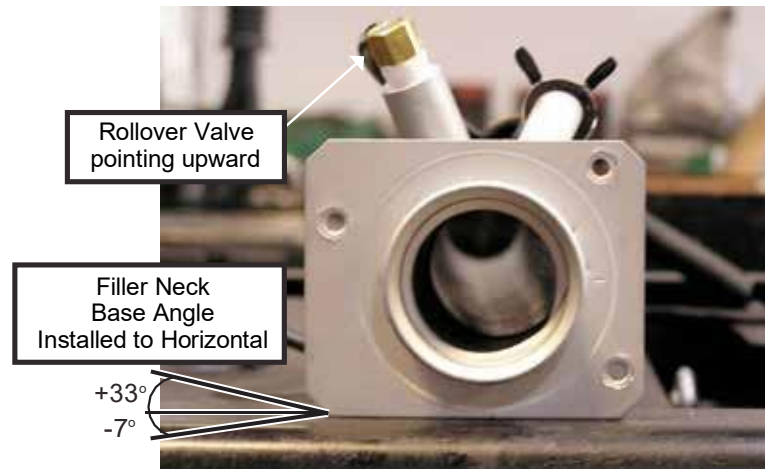

Figure 9.32.2
The fuel filler neck (5) must be installed with the proper orientation on the body. The neck should be installed with the roll-over valve pointing upward, with the bottom edge of the neck oriented parallel to the ground, plus 33 to minus 7 degrees. See **Figure 9.32.2** for the proper orientation.